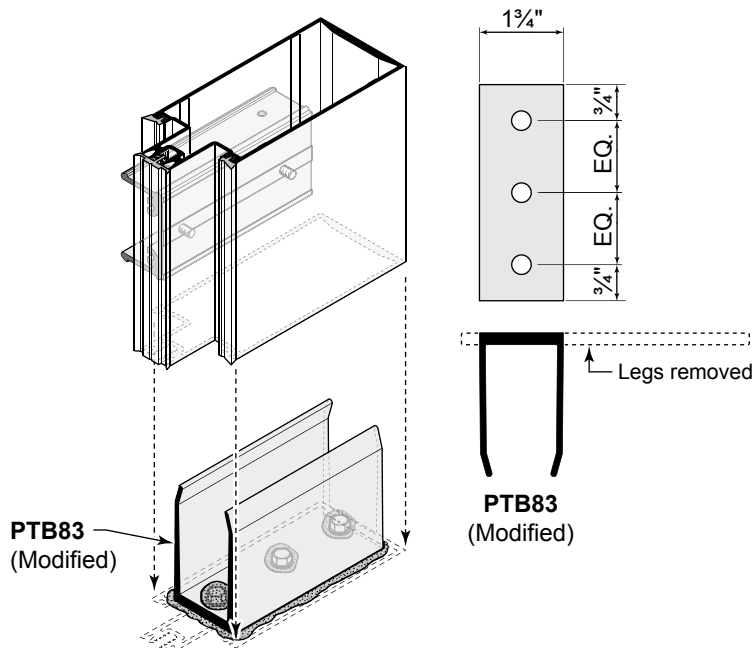
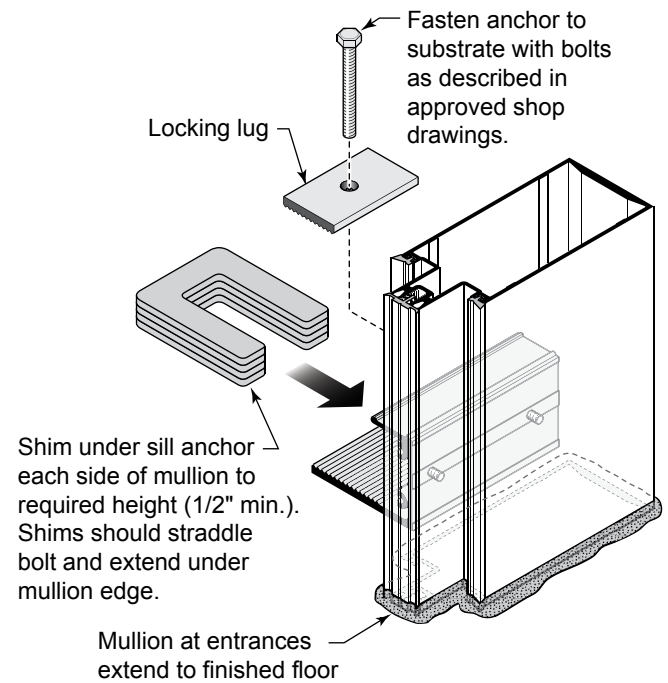

Fig. 57.1
Fig. 57.2
- B. Curtain wall verticals and door subframes run to floor. Bed verticals in sealant and anchor to building per approved shop drawings. See **Fig. 57.1** and **Fig. 57.2** for possible anchoring methods. **Always refer to approved shop drawings for specific requirements.**